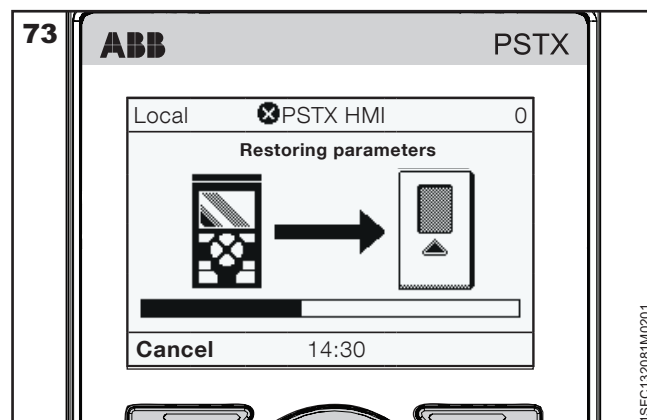

Fig. 73: Uploading parameters
4. Press  "Select" to upload parameters. The upload of parameters will show as in **Figure 73**.